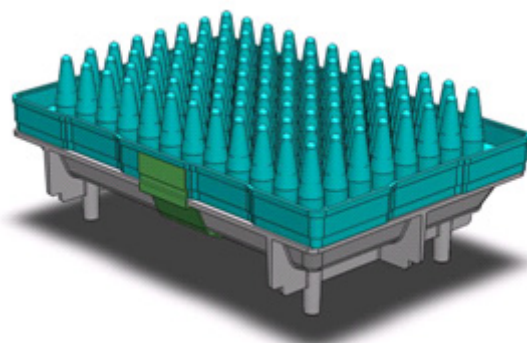

Figure 32 The inverted plate assembly.
2. Seal the pieces together with tape on all four sides. Immediately prior to centrifugation, flip the entire apparatus so that the 96-well plate is upside-down over the collection tray (see Figure 32).